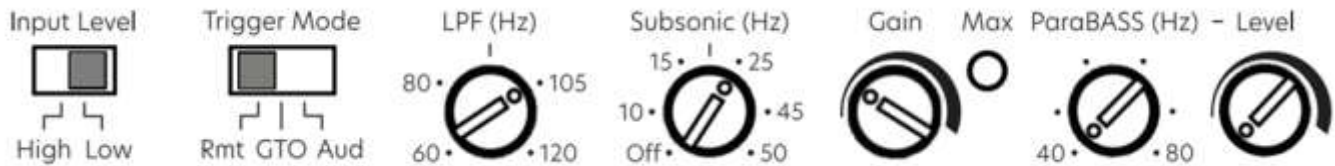

Figure 33
1. Use the recommended settings shown below in the Left Column to adjust the Amplifier. If you have the 5-Channel Amplifier, refer to the Right Column. These are safe settings designed to deliver a clear, natural sound output which you can fine-tune with the radio settings. Refer to the Amplifier Settings Section to learn more about all of the settings. *Figure 33.*